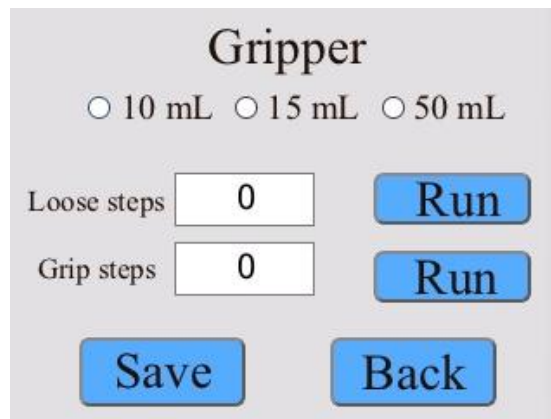

Fig.11
(3) Choose the corresponding tube type and adjust the spacing size (as shown in the setting interface in Figure 11):